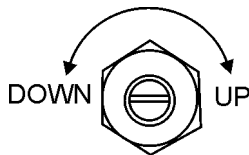

Figure 53. Engine Idle Adjust Trimmer
17. If the engine speed is too high or low, use the high idle adjust trimmer (Figure 53) located in the control box to adjust the rated speed of the engine.